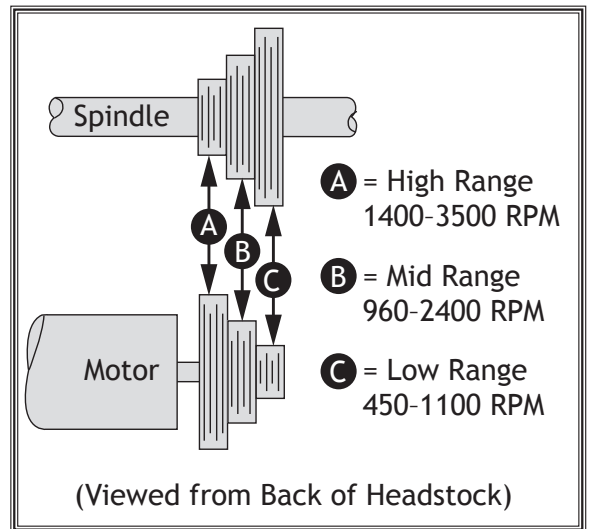

Figure 19. Speed ranges for each belt position.
Refer to **Figure 19** for belt positions and speed ranges.
4. Refer to speed range on chart on top of headstock, then move belt to corresponding grooves on motor and spindle pulleys (see Figure 19 on Page 24).